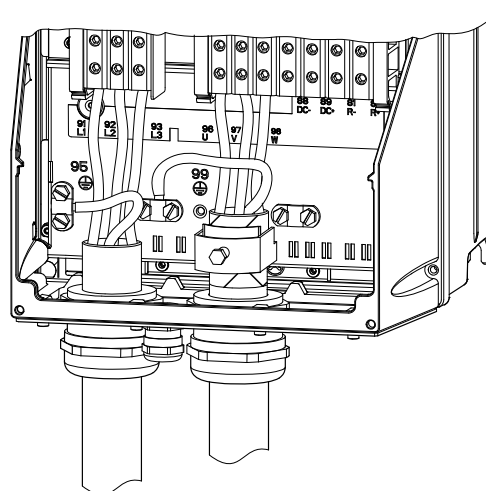

Fig. 27 Mains and motor connection, C1 and C2
1. Connect the earth conductor to terminal 95 (PE). See fig. 27.
1. Connect the earth conductor to terminal 99 (PE). See fig. 27.
2. Connect the motor conductors to terminals 96 (U), 97 (V), 98 (W).